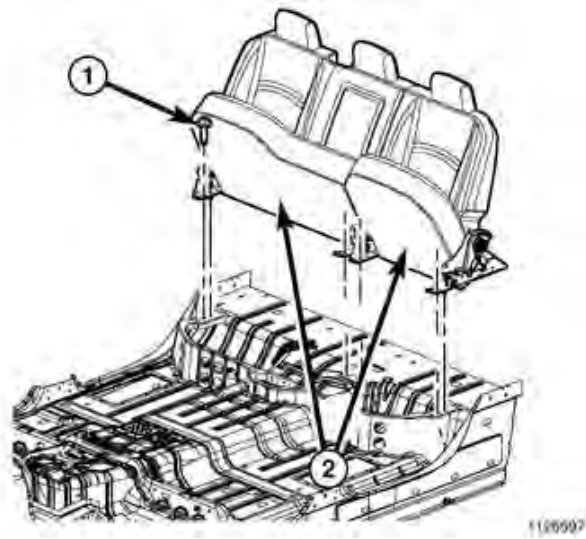

Figure 48 – Rear Seat Front Fasteners
13. Remove all the rear seat front bolts (1) (Figure 48).